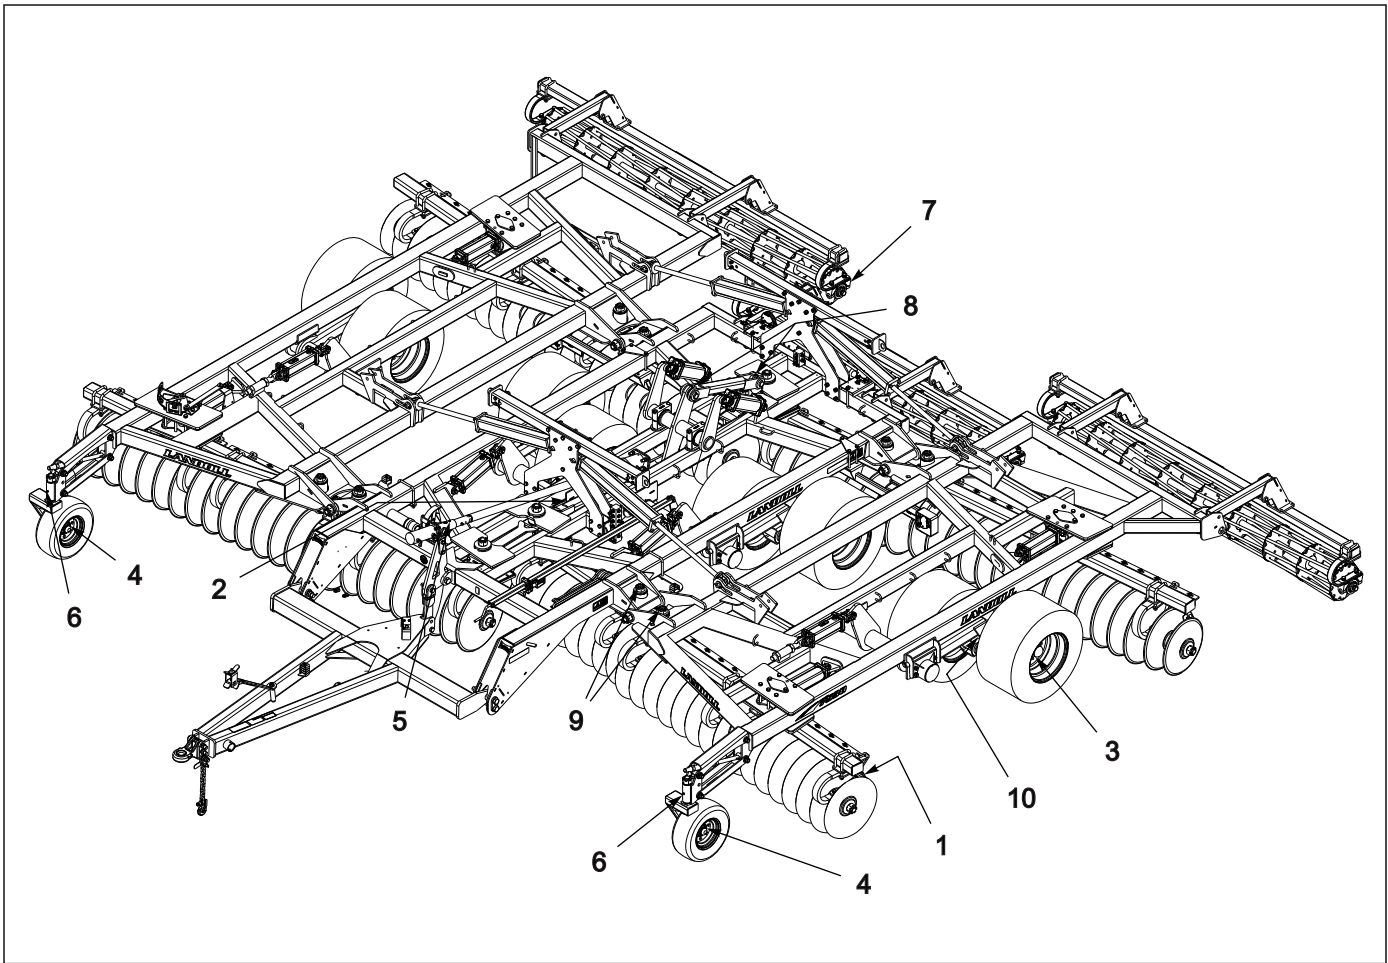

Figure 4-23: Lubrication Schedule
1. A proper maintenance schedule will insure a long operating life and peak performance. Performing the following lubrication will ensure maximum operating life of the 7530 VT (See Table 4-1 and Figure 4-23.)